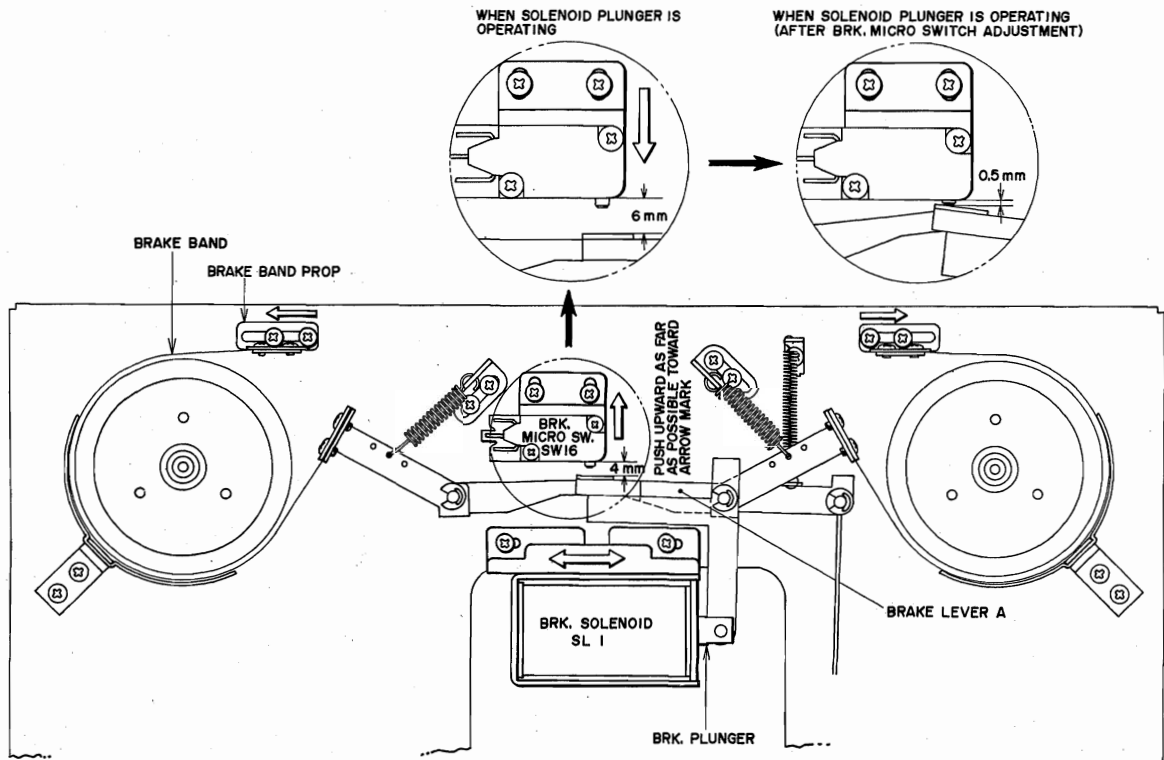

Fig. 9
2. BRAKE SOLENOID POSITION ADJUSTMENT (Refer to Fig. 9)
1) As shown in Fig. 9, push the Brake Micro as far as it will go toward the mechanical chassis and fix at that position.